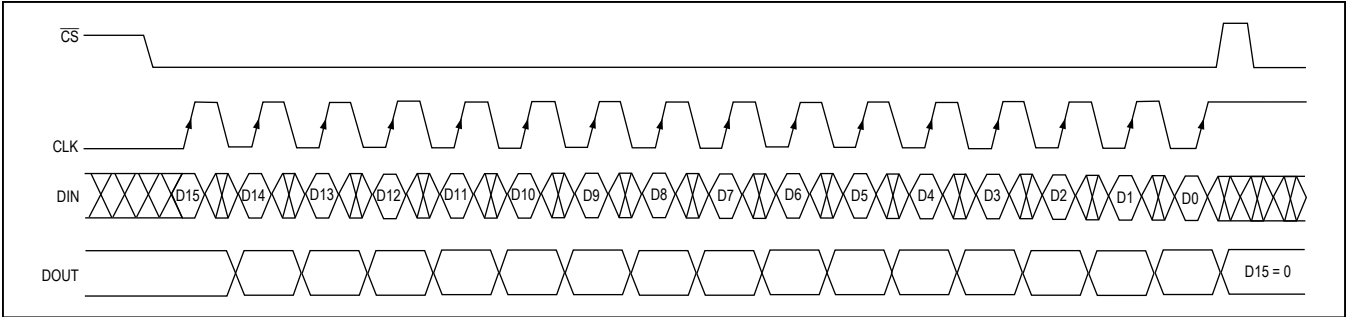

Figure 4. Transmission of 16 Bits to the MAX6954
- 6) Figure 4 shows a write operation when 16 bits are transmitted.